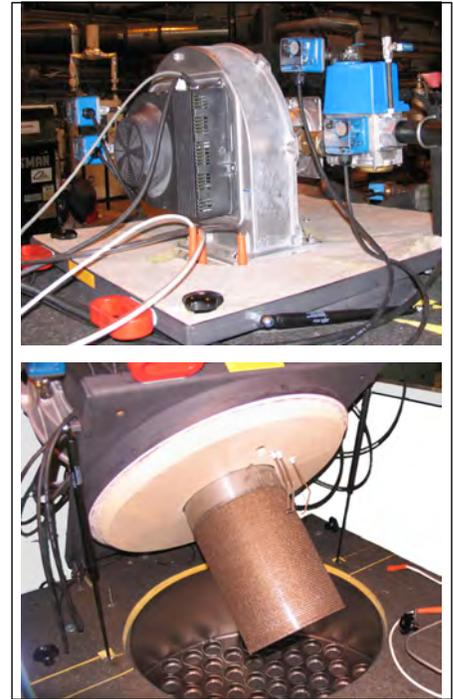

Figure 1-4 Burner
2. The Burner (See Figure 1-4)